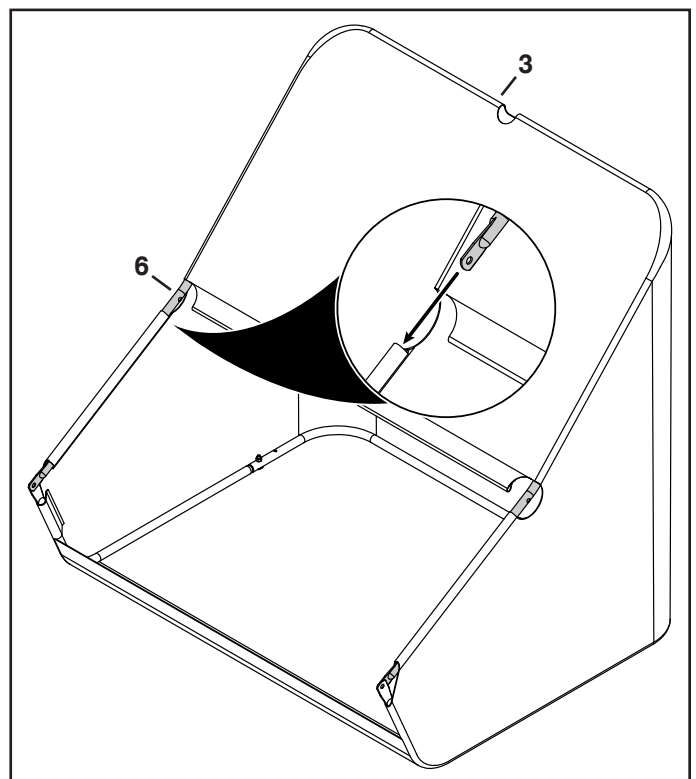

FIGURE 9
12. Slide the upper hopper tubes (6) through flaps in the sides of the hopper bag (3) as shown in figure 9.
13. Slide the upper hopper tubes (6) up inside the hopper bag (3) as shown in figure 9.